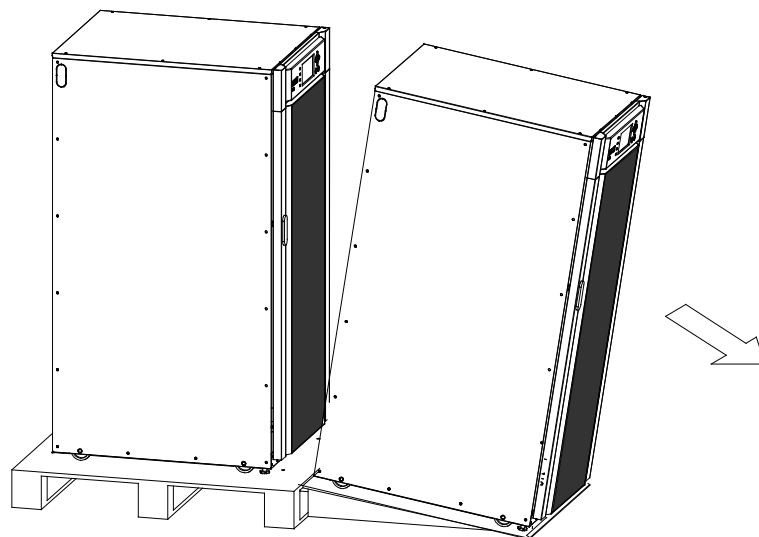

Figure 4-3. Rolling the Cabinet Down the Ramp
6. Slowly roll the cabinet toward the front of the pallet. Continue rolling the cabinet down the ramp until the cabinet is clear of the ramp (see Figure 4-3).